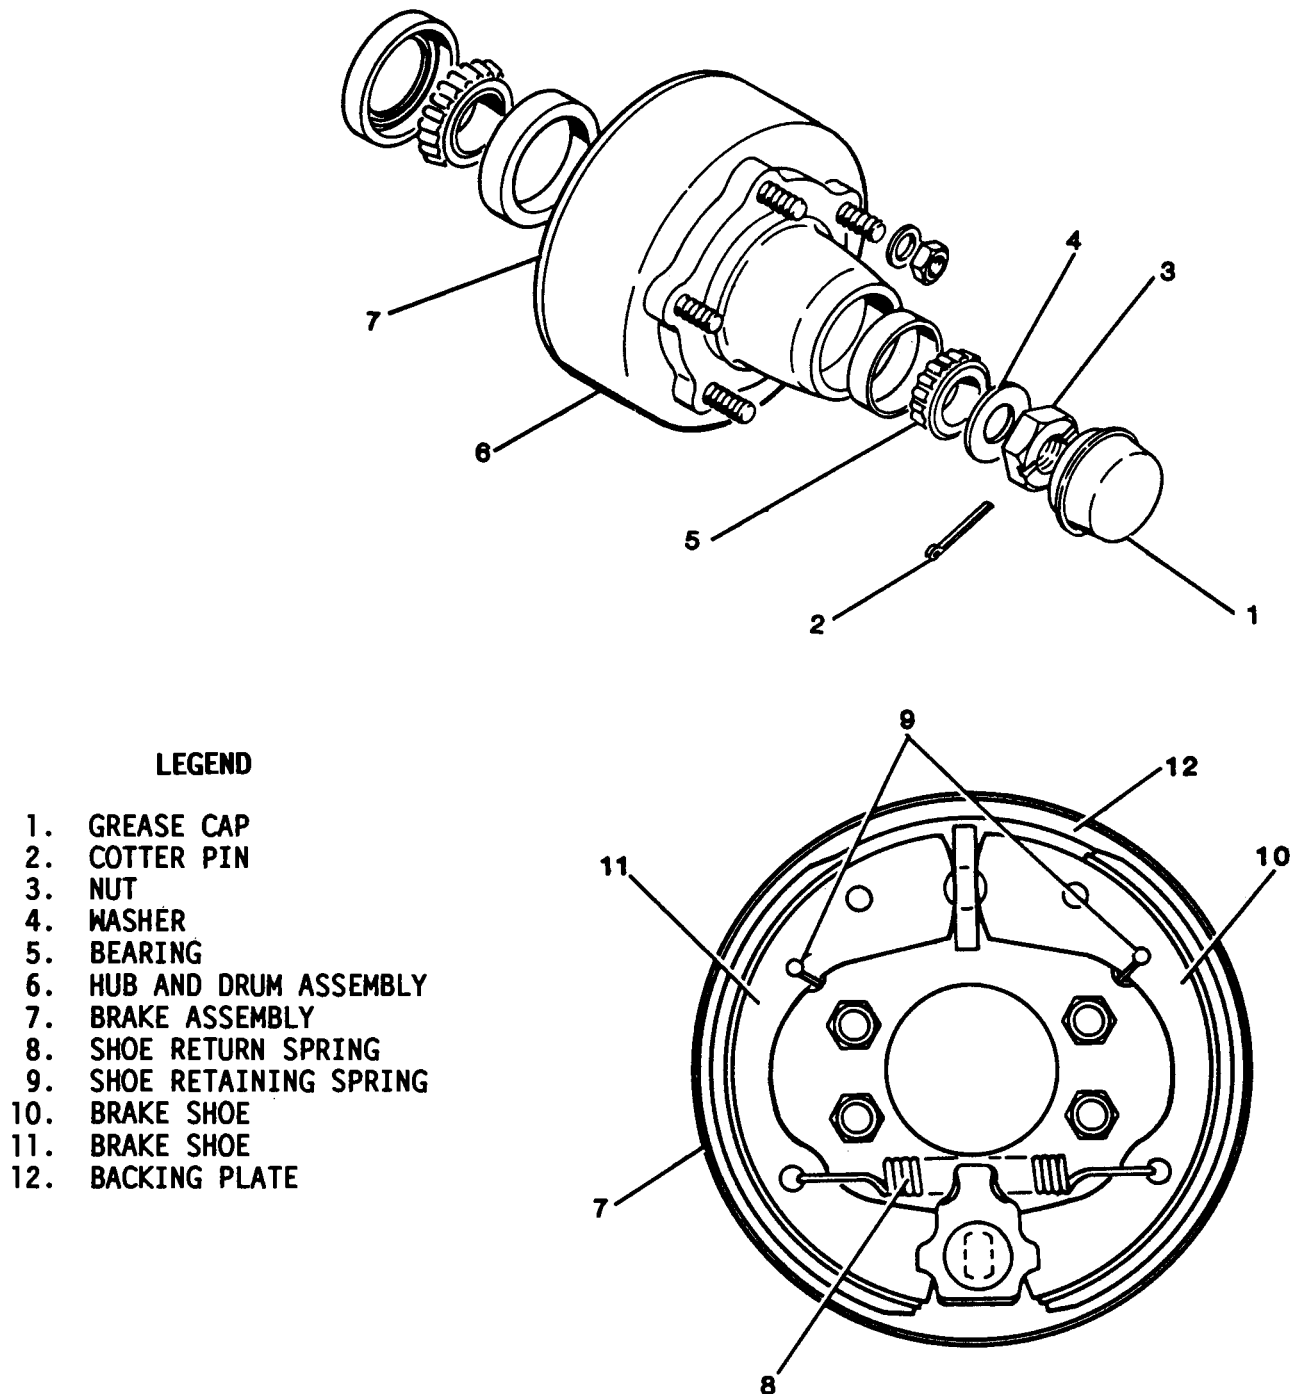

Figure 4-59. Brake Assembly Replacement
(1) Remove wheel in accordance with paragraph 4-92a.
(2) Release handbrake.
(3) Remove grease cap (1, figure 4-59).
(4) Remove cotter pin (2), nut (3), washer (4) and bearing (5).
(5) Remove hub and drum assembly (6) from brake assembly (7).
(6) Remove shoe return spring (8), shoe retaining springs (9) and both brake shoes (10) and (11) from backing plate (12).